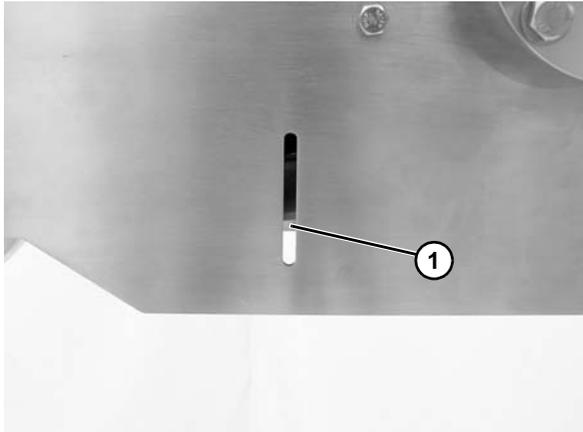

Figure 15
Before inserting belt rod to connect belt ends, be certain that the slack on belt is showing in slotted area (**Figure 15, item 1**) on conveyor drive end.